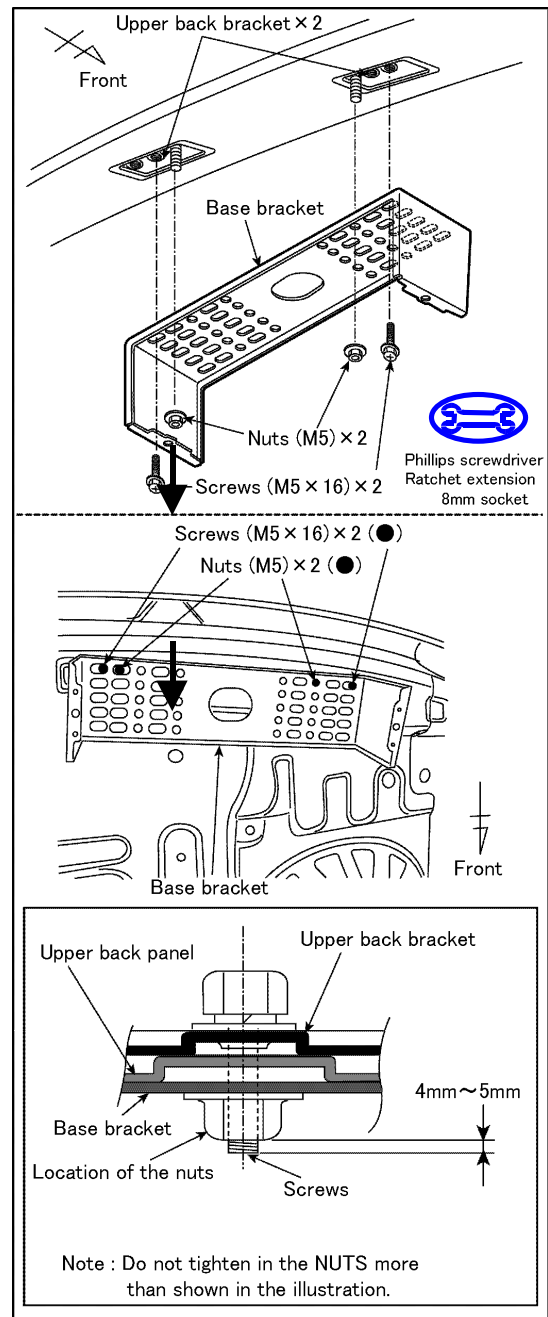

Figure R1
-  1. Attach base bracket to upper back bracket by hand tightening nuts and screws. (Figure R1)
-  2. Tighten bolts using 8mm socket. Be sure there is no more than 4mm to 5mm of distance between screw and nut as shown in illustration. (Figure R1)